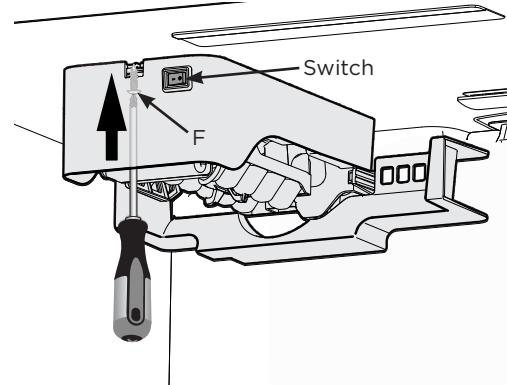

Figure 3
7. Insert and tighten screw (F) in the outermost hole on the bracket to fasten it to the upper side of the freezer wall. (See Figure 3).